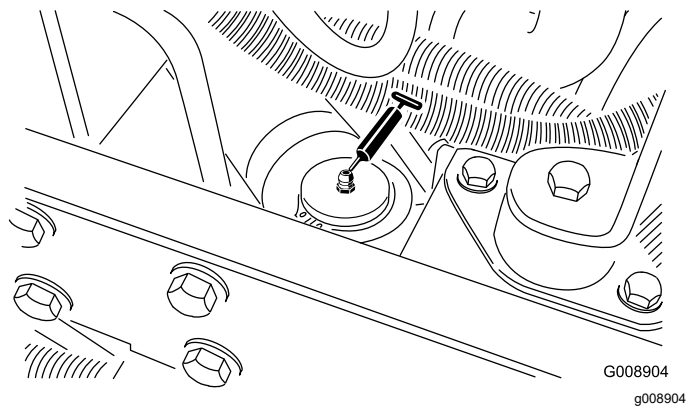

Figure 42
- Steering cylinder (Figure 42)